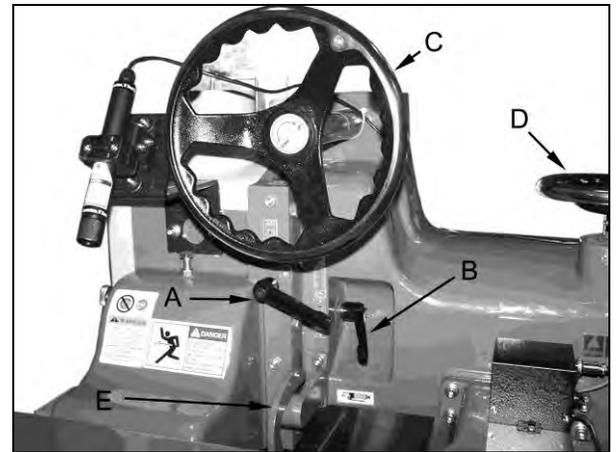
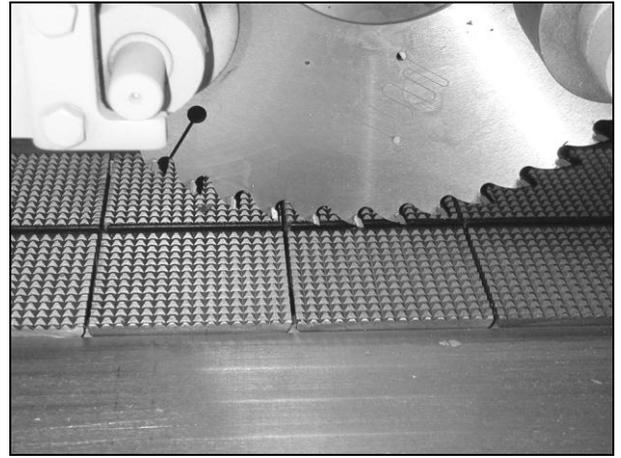

Figure 3
Figure 5
3. If the width of 'A' is greater than 'B' then the fence needs to be adjusted as in Figure 3.
1. To remove the saw blade first loosen the arbor lock handle (B, Figure 3) and the carriage lock handle (A, Figure 3).
Note: Make sure the carriage lock handle is not pushed down and into the anti-kickback lift handle (E, Figure 3) or it will break when the carriage is lowered.
2. Turn the carriage height hand wheel (C, Figure 3) to lower the pressure wheels to a distance of approximately $\frac{1}{4}$ " above the conveyor chain.
3. Turn the saw blade height hand wheel (D, Figure 3) to raise the saw blade to a distance of approximately $\frac{1}{4}$ " above the conveyor chain. This will prevent the possibility of damage to the blade when removing it.
1. For proper operation the height of the saw blade must be below the conveyor chain but no more than 1/16" (Figure 5). This will in effect allow the blade to cut into the rubber chain insert. This is normal. Adjust the arbor height hand wheel (D, Figure 3) accordingly.
2. Once the saw blade height is set lock into place with the arbor height locking handle (B, Figure 3).
3. Now return the carriage to it's correct height using the carriage height handwheel (C, Figure 3) and lock into place with the carriage lock handle (A, Figure 3).
1. Loosen the carriage lock handle (A, Figure 3). Turn the carriage height adjustment wheel (D, Figure 3) to the correct height according to the previous section.
2. Lock the carriage in place with the carriage lock handle (A, Figure 3).